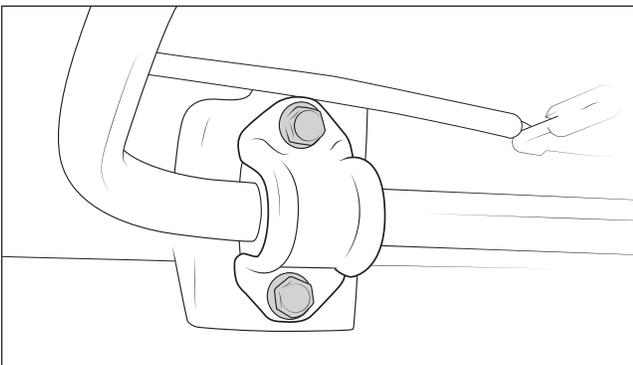

Figure 36
10. Remove the left side sway bar bolts from the axle (fig. 36).